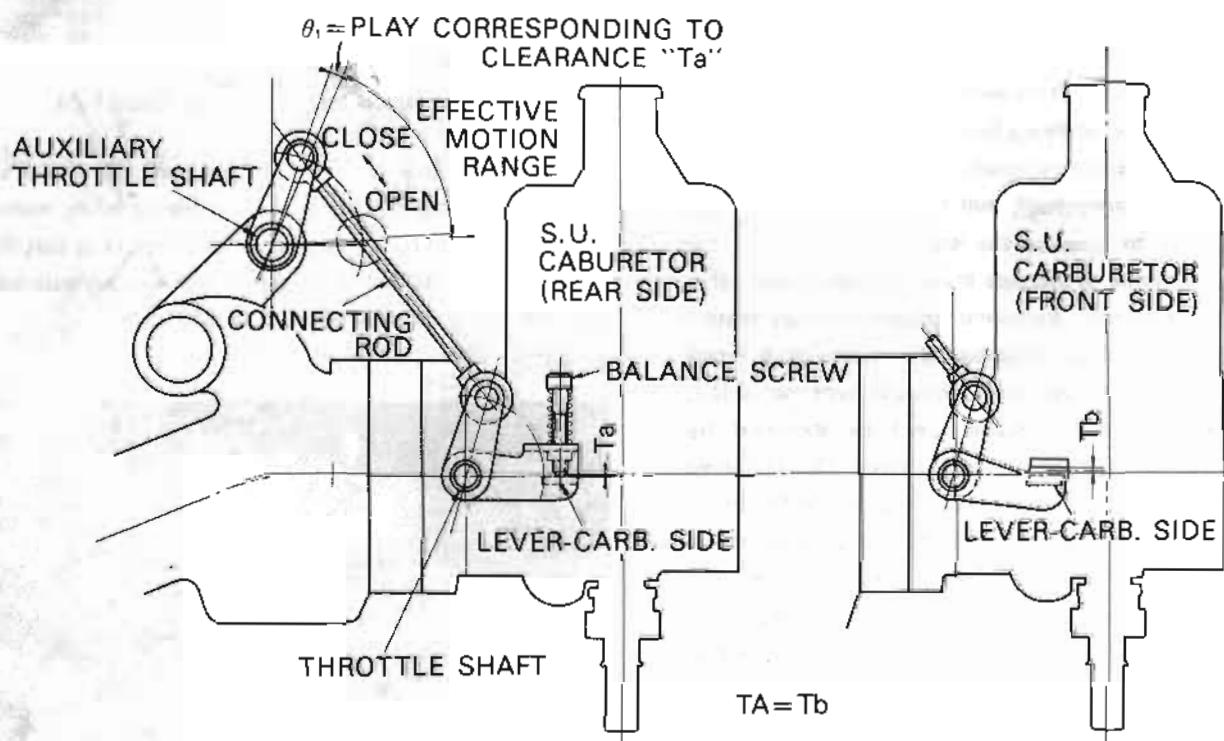

Fig. EC-30 Adjusting idle speed and mixture
c. When the throttle adjusting screw is returned during the above adjustment and engine speed cannot be reduced below 750 rpm, other adjusting screws such as opener adjusting screw (13) and balance screw (14) must have been tightened excessively or the accelerator linkage must have not been adjusted correctly. Under the normal condition, the auxiliary throttle shaft (8) and throttle shaft (11) should have a slight play during engine operation under the idling speed. In other words, the auxiliary throttle shaft (8) should be provided with a play "Q1" which corresponds to the clearance $T_a = T_b$ as shown in Figure EC-30.